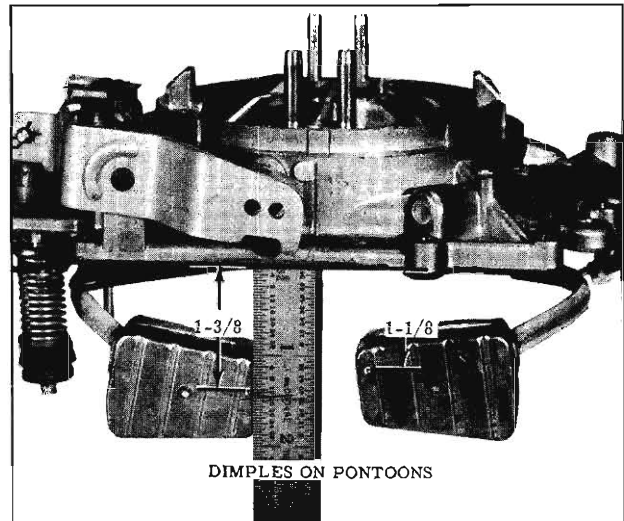

Fig. 4-167 Checking Float Drop
1. Position the air horn as shown in Fig. 4-167.